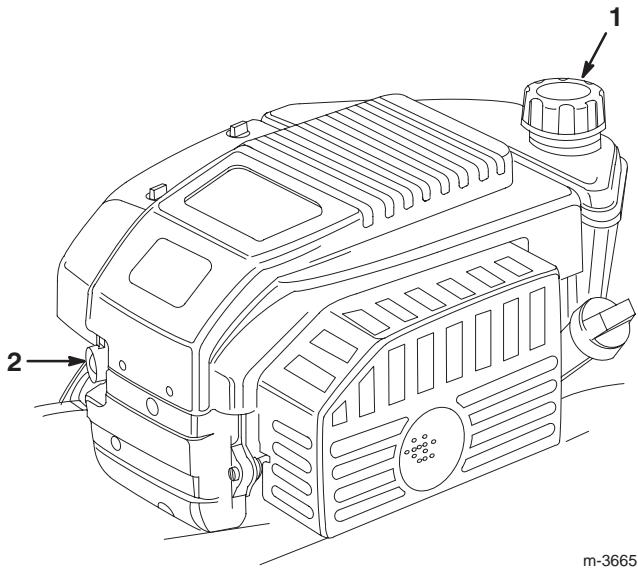

Figure 9
- Clean around the fuel tank cap (Fig. 9).